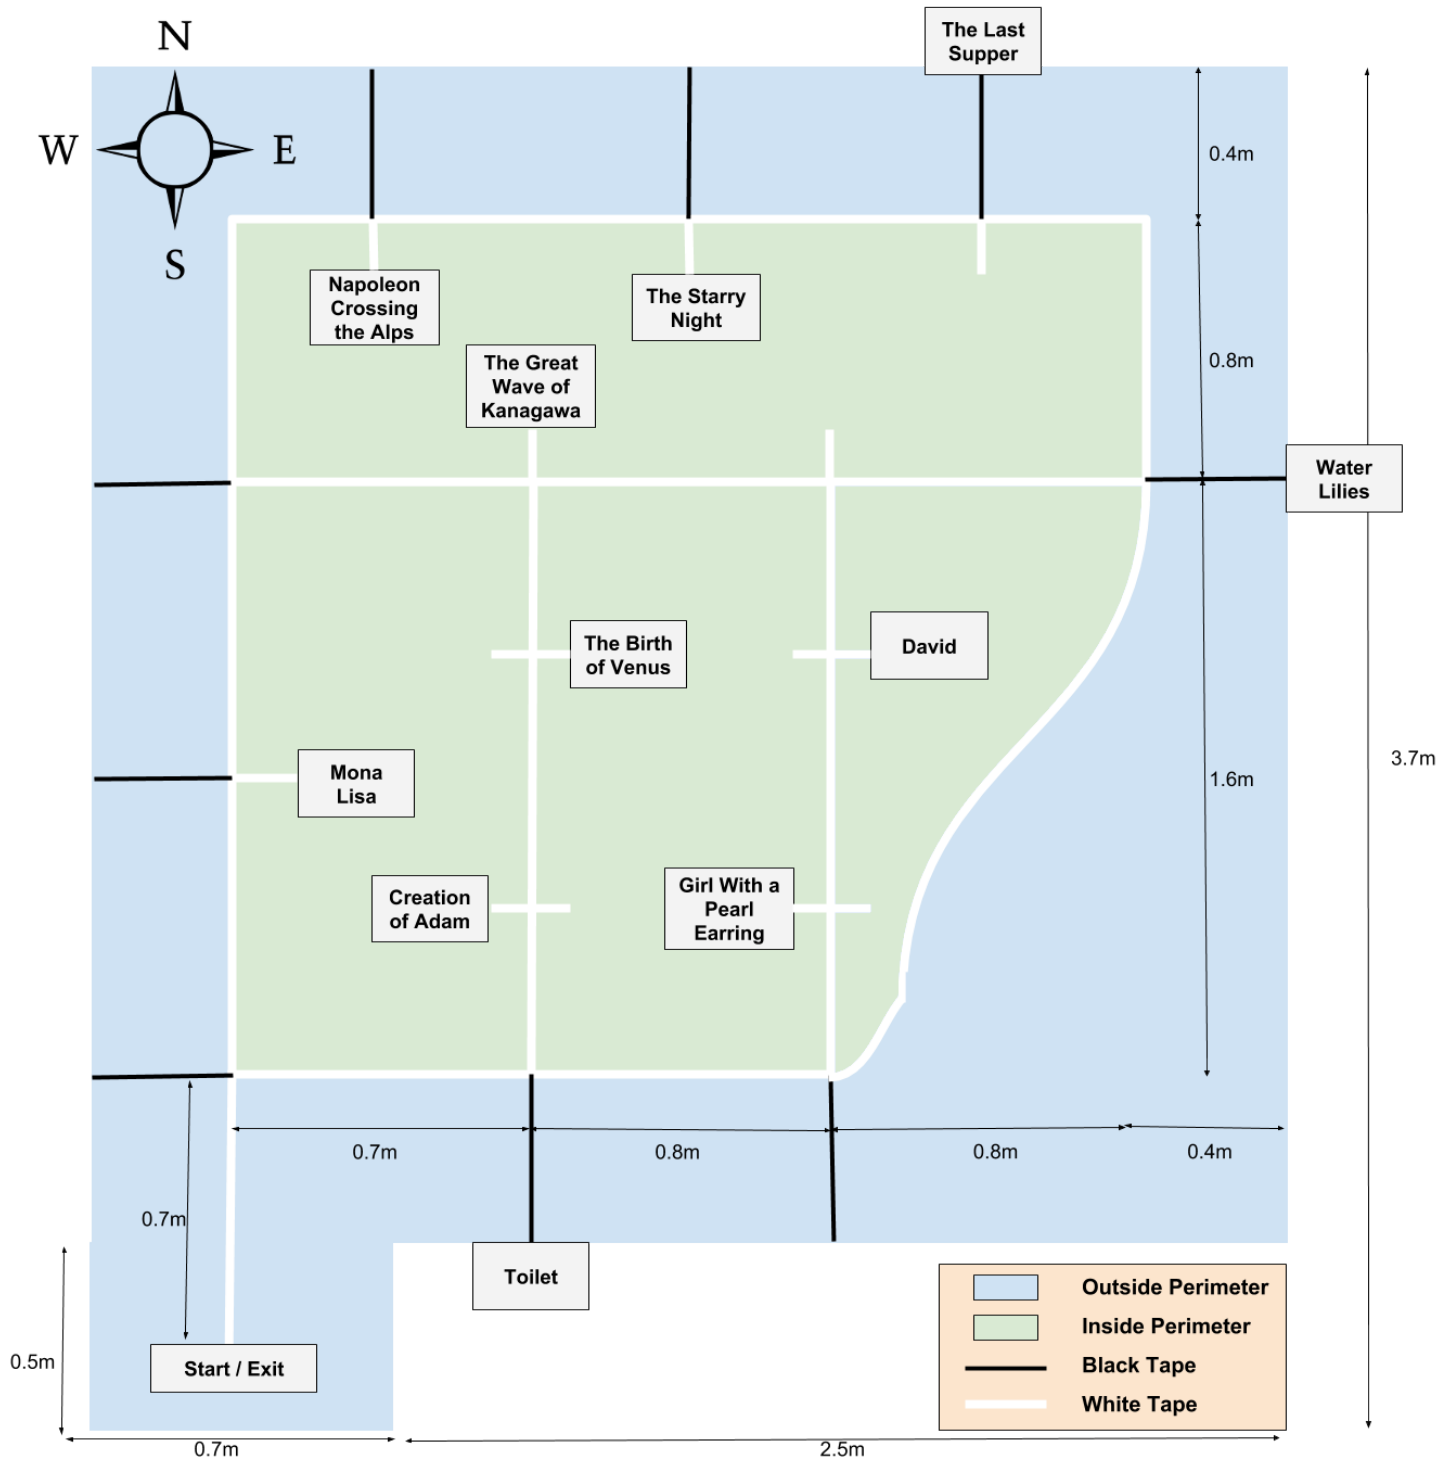

Fig. 5: Map of the Museum Environment
RoboTour is designed to operate in an environment which you can see in Fig. 5. The black and white lines used for navigation are 25mm in width and must be placed on a gray background. Please note that it is essential that the lines are created using a single layer of tape to ensure reliable tracking.
1. Place the robot at the starting location, facing "North" (Fig. 5). The robot should be placed directly over the white line, away from any coloured markers.
During the tour, obstacle avoidance only occurs in the outside perimeter (blue area in Fig. 5). If the robot doesn't have access to the outside perimeter, it will stop before the obstacle and request the obstacle be removed. Once the obstacle is removed, the robot will continue the tour.
1. Robot rotates 45 degrees in the direction towards the outward direction of the perimeter (away from the green area in Fig. 5).